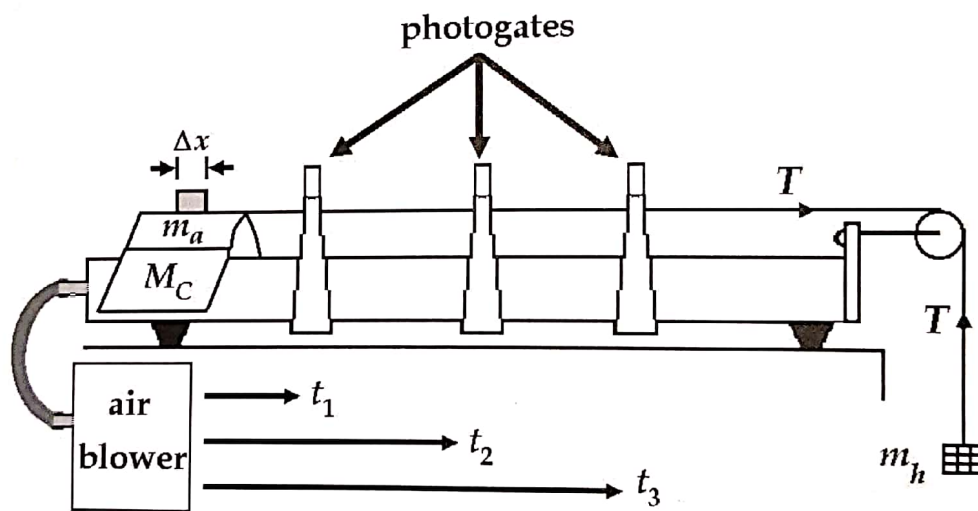

Figure 5.1: Air Track - Experimental Setup.
In this experiment, the mechanical system consists of a cart on a horizontal surface, connected by a light string passing over a pulley to a vertically hanging mass (Figure 5.1). A pin on the top of the cart can be used to add mass to it using slotted weights.
2. Set up the system as shown in Figure 5.1 and note that
1. Set up the system as indicated in Figure 5.1, starting with $m_a = 30 \text{ g}$ and $m_h = 10 \text{ g}$.